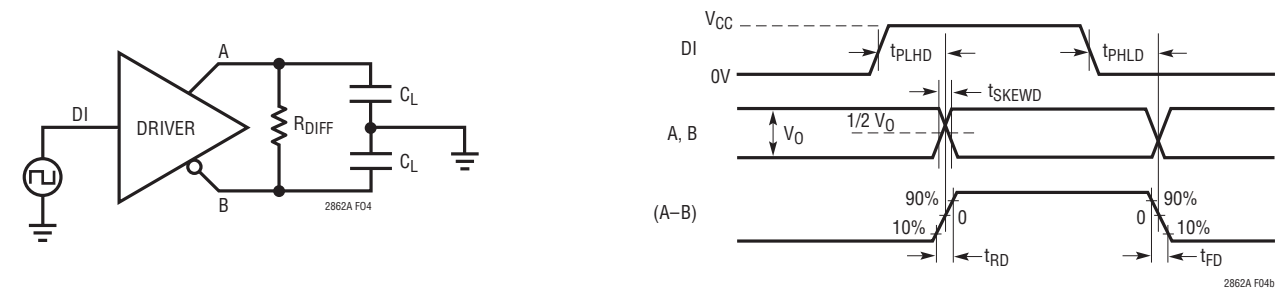

Figure 4. Driver Timing Measurement
- IEC 61000-4-2 Edition 2.0 2008-12 ESD Level 4: ±8kV contact (A or B to GND, direct discharge to bus pins with transceiver and protection circuit mounted on a test card with a low impedance ground discharge path from board GND to ESD gun return lead, per Figure 4 of the standard)